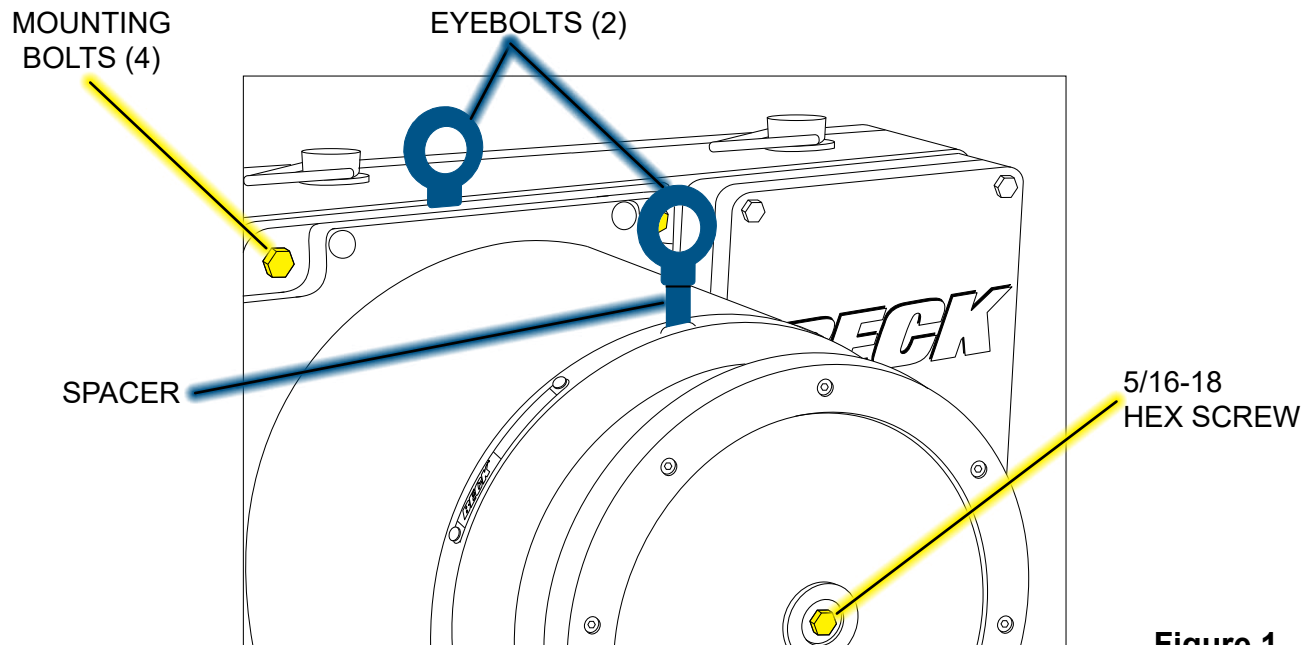

Figure 1
2. Remove and retain the cap plugs from the holes (2) located in the top of the motor. Install the eyebolts and spacer (provided) in the holes as shown in Figure 1.
4. Remove one of the top 1/2-13 motor mounting bolts from the motor (see Figure 1), then remove the bottom opposite 1/2-13 bolt.